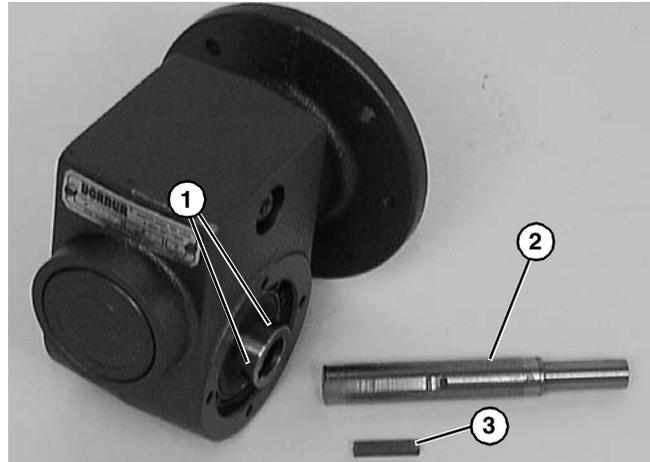

Figure 26
- Loosen six (6) set screws (**Figure 26, item 1**). Remove drive shaft (**Figure 26, item 2**) and key (**Figure 26, item 3**).
- Replace the original shaft components into new gear reducer (**Figure 26**).